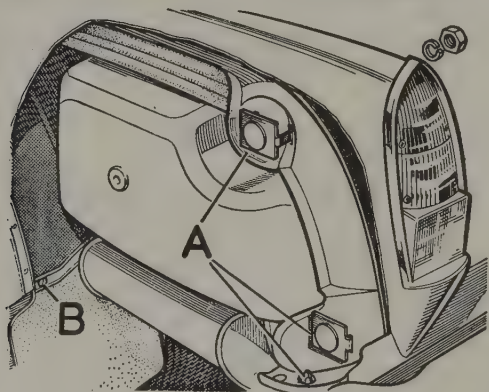

Fig. 12.42. Rear wing attachment bolts (A) mud flap bolts (B)
- 9 Refer to Fig.12.42 and remove the nut and bolt "B" adjacent to the mud flap.